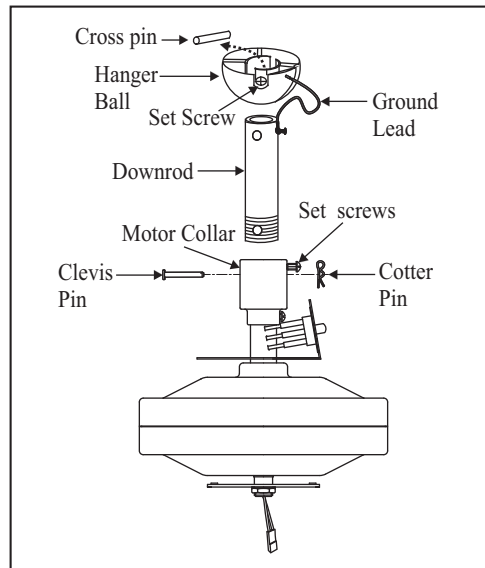

Figure 7
3. Remove the clevis pin, cotter pin and set screws from the top of the motor assembly. (Figure 7)
4. Take out the setscrew located in the hanger ball, lower the hanger ball and remove the cross pin. Remove the hanger ball from the hanger ball/downrod assembly. (Figure 7)
5. Remove the ground lead from the downrod assembly. (Figure 7)